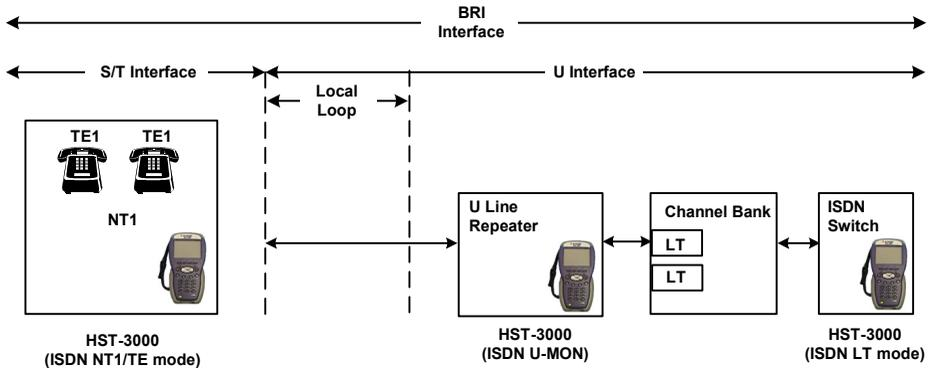

Figure 2 HST emulation modes for the U Interface
U interface The U interface is the physical 2-wire echo cancelling interface spanning from the central office, to the local loop, and finally, to the customer premises. Each of the modes available for testing the U interface is described below, and illustrated in Figure 2.
- Emulating a NT1 with one or two TE devices on the U interface (see Figure 2 on page 5).
- Emulating an ISDN switch on the U interface (see Figure 2 on page 5).